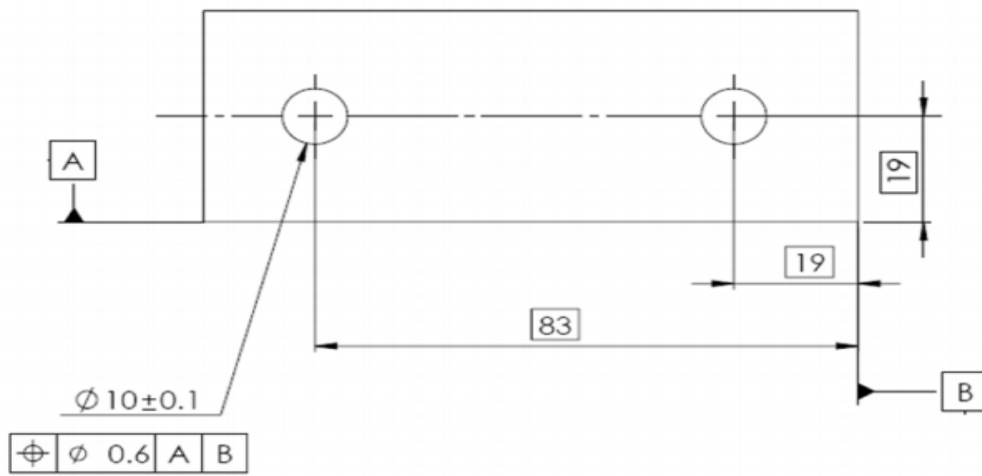

Figure 6
6. Describe using sketches or words for the below **figure 6**